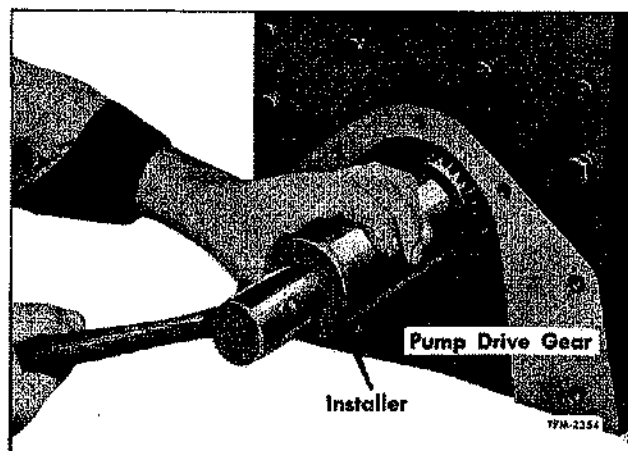

Figure 12—Installing Oil Pump Drive Gear on Crankshaft
1. The extended-hub side of gear must be next to crankshaft main bearing. Place Woodruff key in crankshaft; then start gear on crankshaft over key. With a suitable pipe for a driver (fig. 12), drive gear tight against shoulder on crankshaft.